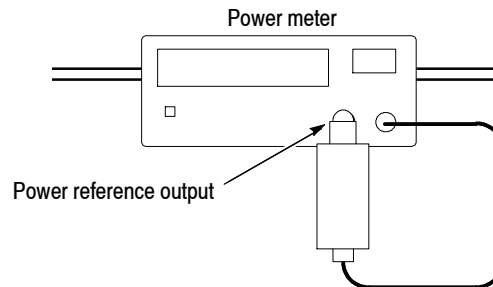

Figure 4-5: Hookup for calibrating the power sensor
- a. *Modify the hookup:* Connect the power sensor input to the power reference output of the power meter (see Figure 4-5).